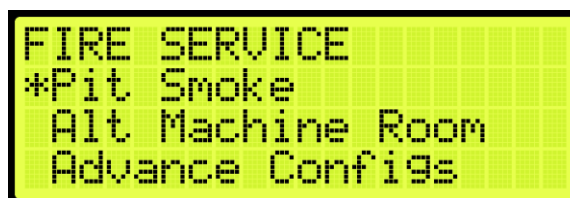

Figure 555: FIRE SERVICE Menu – PIT Smoke
- From the FIRE SERVICE menu, scroll and select PIT Smoke (See Figure 555).